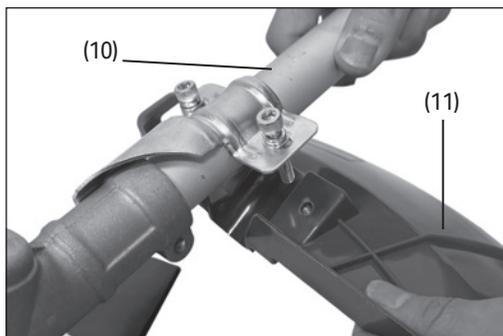

Fig.3
2. Remove the top cover of the bracket and install the two handles. Ensure the handle with the controls (6) is positioned for use with your right hand.
6.2 Fitting the Attachment Guard (Fig.3)